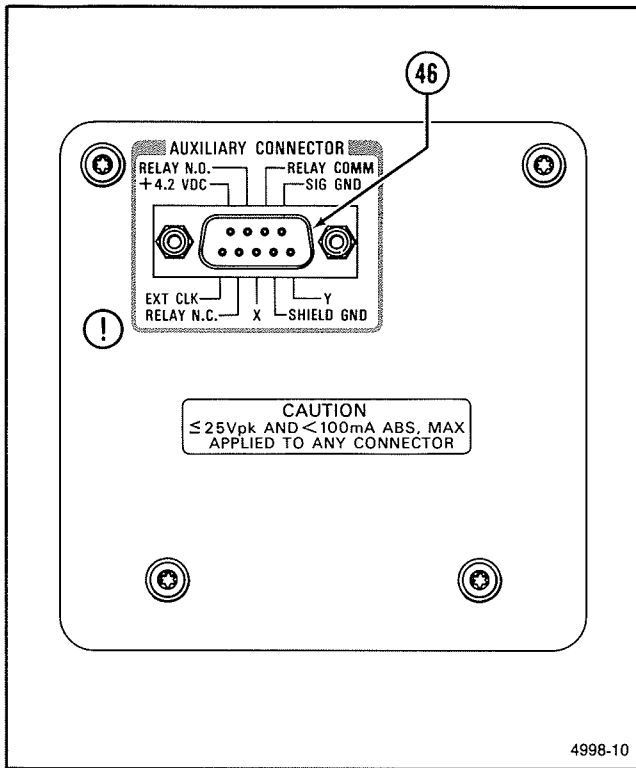

Figure 3-7. Side panel.
The standard side panel includes one AUXILIARY CONNECTOR. Refer to Figure 3-7 for the location of item 46.
- ④6 **AUXILIARY CONNECTOR**—Provides connections for an X-Y Plotter and an External Clock input (see Table 3-4).